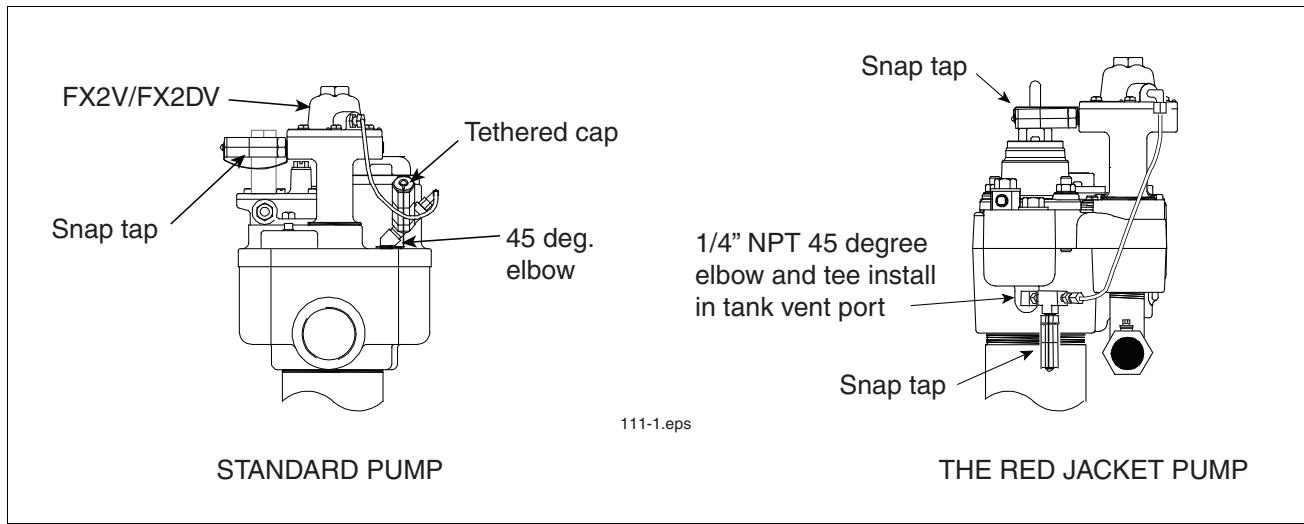

Figure 1. Snap tap installation examples
7. To install snap tap connectors in FX2DV/FX2V models, apply a UL-classified, non-toxic pipe thread sealant to the snap tap connectors and install one in the body of the FX2DV/FX2V leak detector and the other in the tee attached to the 45-degree elbow installed in the tank test port of the packer (Figure 1). For 6-inch Big-Flo applications, install two snap tap connectors - one in the FX2DV/FX2V leak detector and one in the riser/flange assembly.